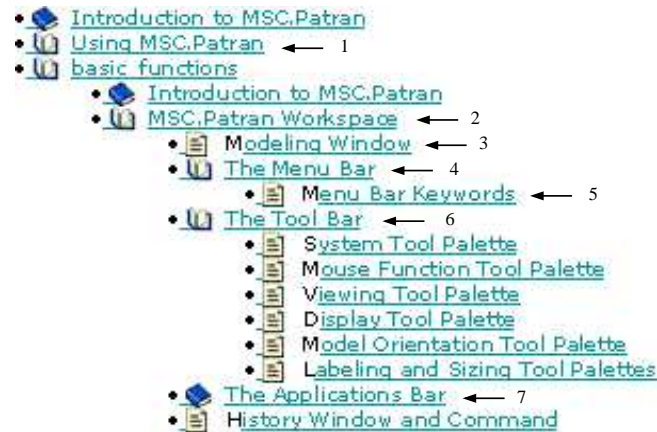

Figure 2: on-line Help Document
The selections to be made are indicated by numbered arrows in **Figure 2**,
- Click on 'Tool Bar' and this should display the various palettes that make up the tool bar. The most frequently used icons are included in the Tool bar. **Figure 2** shows the contents page as it appears at this stage.